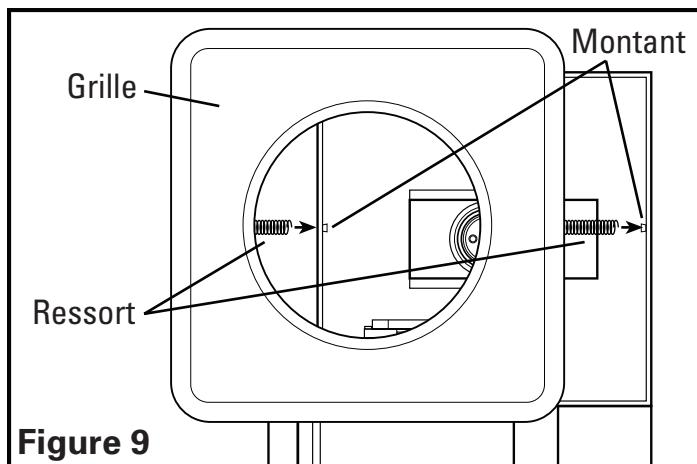

Figure 9
2. Remove grill from carton and attach springs from grill to posts on either side of housing (Figure 9).